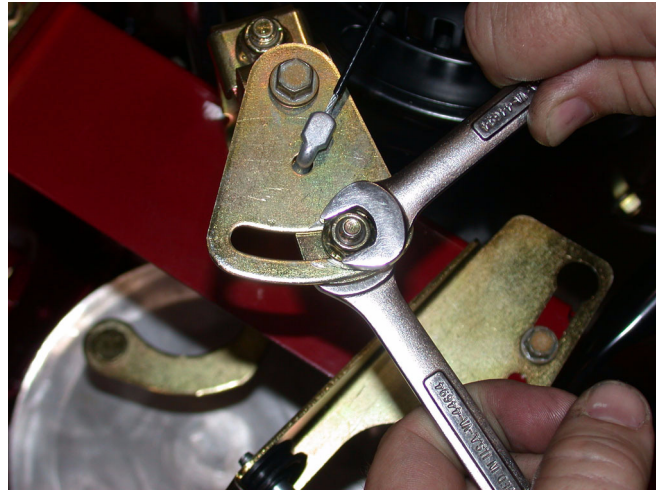

Figure 7.7
- 7.7. Release the tension on the Speed selector cable with two 7/16" wrenches. See Figure 7.7.